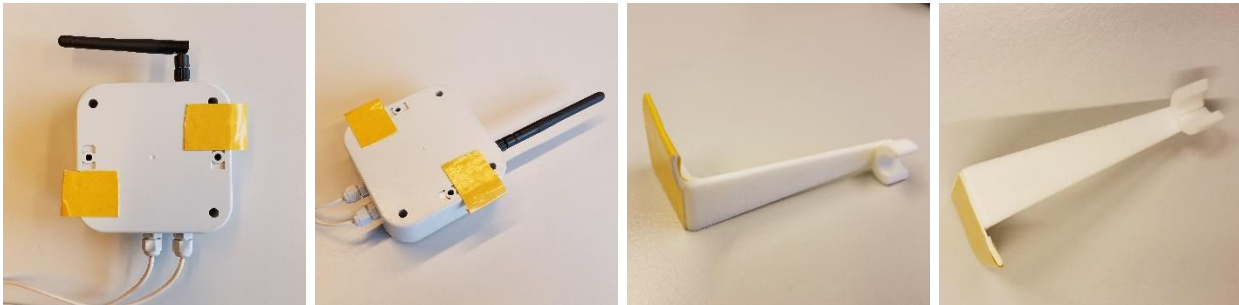

Figure 2: Applying Roll tape to the node and ambient temperature sensor holder.
6. Repeat the same adhesive tape cutting procedure for the node and ambient temperature sensor holder as shown in Figure 2.